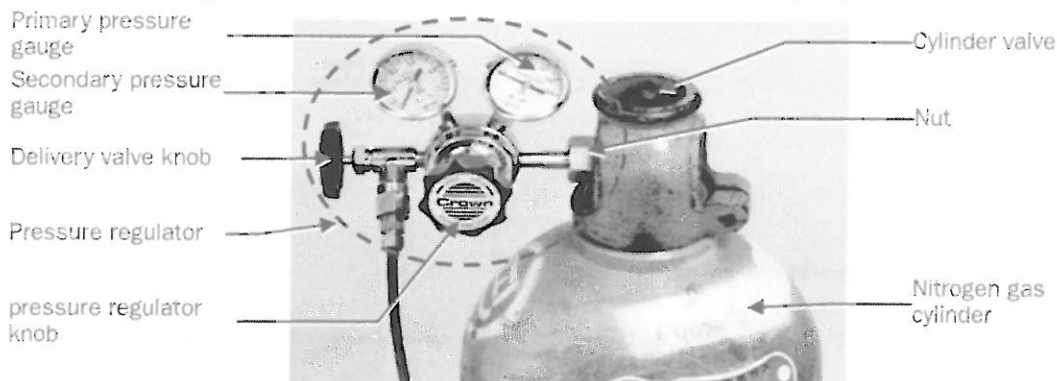

Fig. 6.15 Nitrogen gas cylinder and pressure regulator
1. Turn the pressure regulator knob counterclockwise until it stops to close it (Fig. 6.15).
2. If a delivery valve is provided, turn the delivery-valve knob clockwise until it stops to close it (Fig. 6.15).
3. Turn the cylinder valve (main cock) handle clockwise until it stops to close it (Fig. 6.15).
1. After confirming that the pressure regulator knob is turned counterclockwise until it stopped (it is closed), turn the cylinder valve handle counterclockwise until it stops to open the cylinder valve (main cock) (Fig. 6.15).
2. Slowly turn the pressure regulator clockwise to open it, and adjust it so that the secondary side pressure gauge reads the specified pressure, 0.02 MPa (Fig. 6.15).